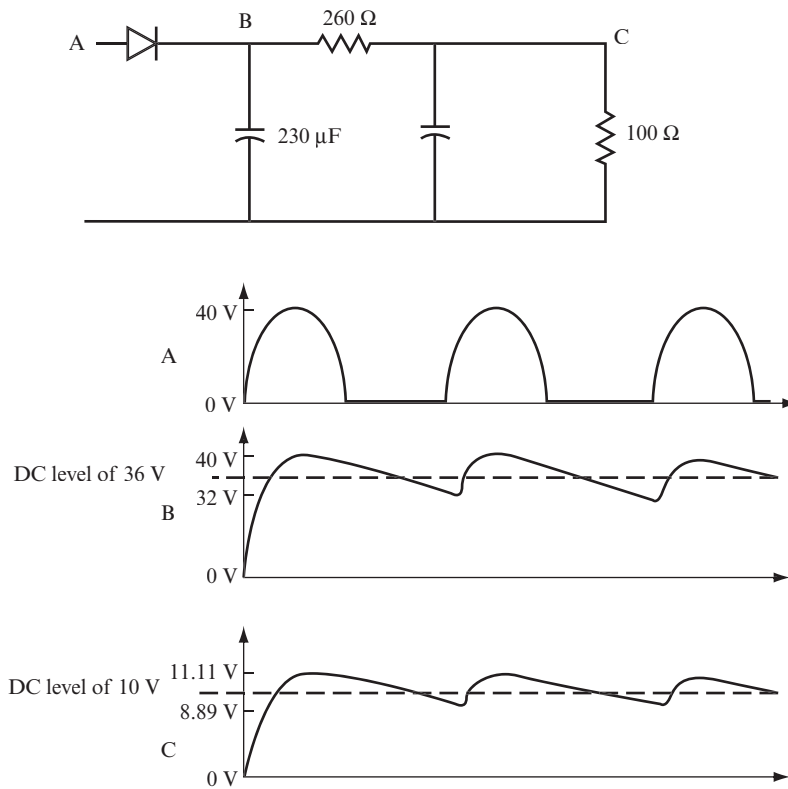

FIGURE 11.43
23 Figure 11.43 shows voltage waveforms at various points in the half-wave rectifier circuit.
NOTE This result means that the addition of C_2 lowers the AC ripple shown by curve C in Figure 11.43, with peak values of 11.11 and 8.89, to values of 10.155 and 9.845 volts. This represents a lower ripple at the output. Hence, C_2 aids the smoothing of the 10 volts DC at the output.
A. What is the average DC level for the half-wave rectifier at point B in Figure 11.43? _